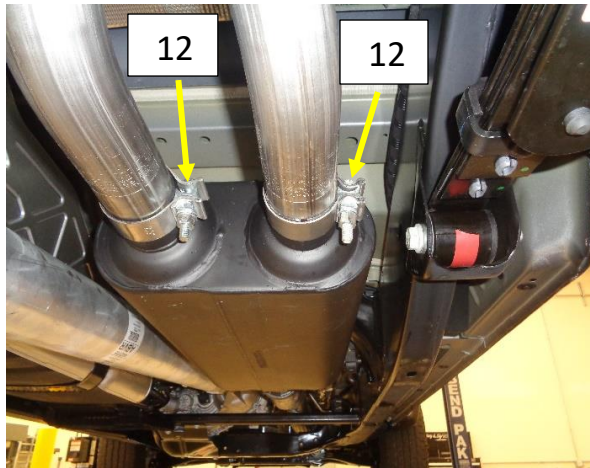

Figure 4
8. Install (x2) supplied 2.5" band clamps (12) on to the muffler outlet pipes, as shown. Do not tighten **Fig.4**